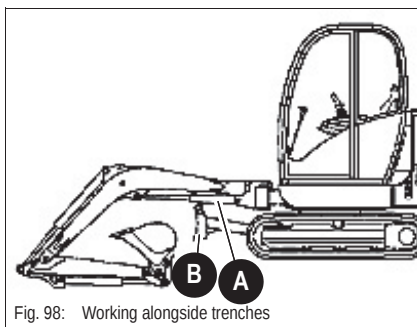

Fig. 98: Working alongside trenches
- ☞ Make sure stabilizer blade **B** never touches piston rod **A** (Fig. 98).